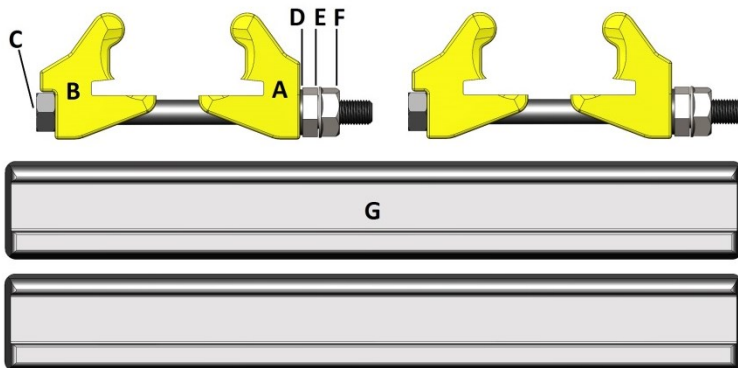

Figure 1 - Items Required
- The items listed below are required for correct assembly: [Fig. 1]